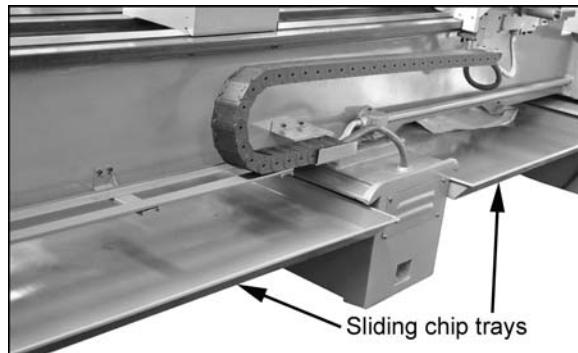

Figure 16 – GH-26120ZH chip trays
**GH-26120ZH**: Pour coolant (approx. four gallons) into one of the chip trays (Figure 16). Or, slide out one of the chip trays and pour directly into the side trough on the center stand.